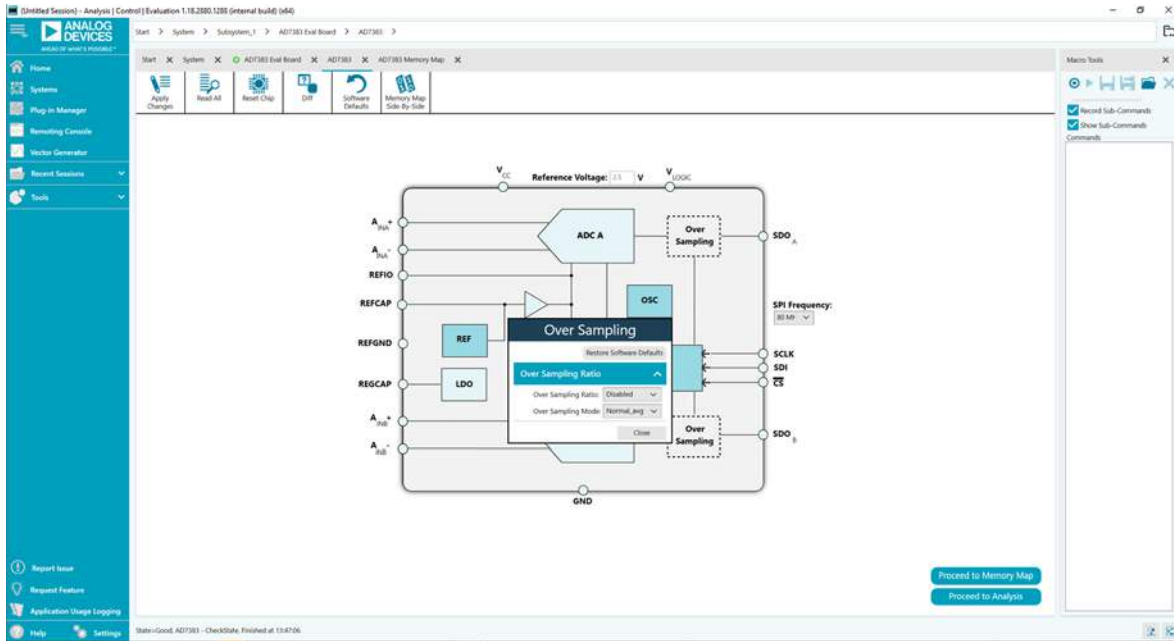

Figure 15. **Over Sampling** Configurable Pop-Up Window
1. Block icons that are dark blue are programmable blocks. Click a dark blue block icon to open a configurable pop-up window to customize the data capture. Figure 15 shows the **Over Sampling** configurable pop-up window.